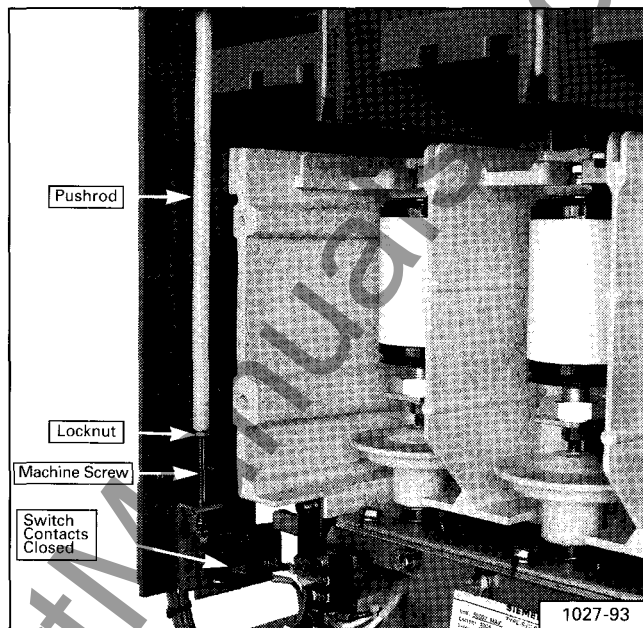

Figure 9. Adjustment of Trip Mechanism in Deactivated Position
4. Referring to **Figure 9** loosen the machine screw which threads into the pushrod and adjust outward (lengthen) until the micro-switch contacts just close. Then adjust outward one additional full turn and tighten the locknut.